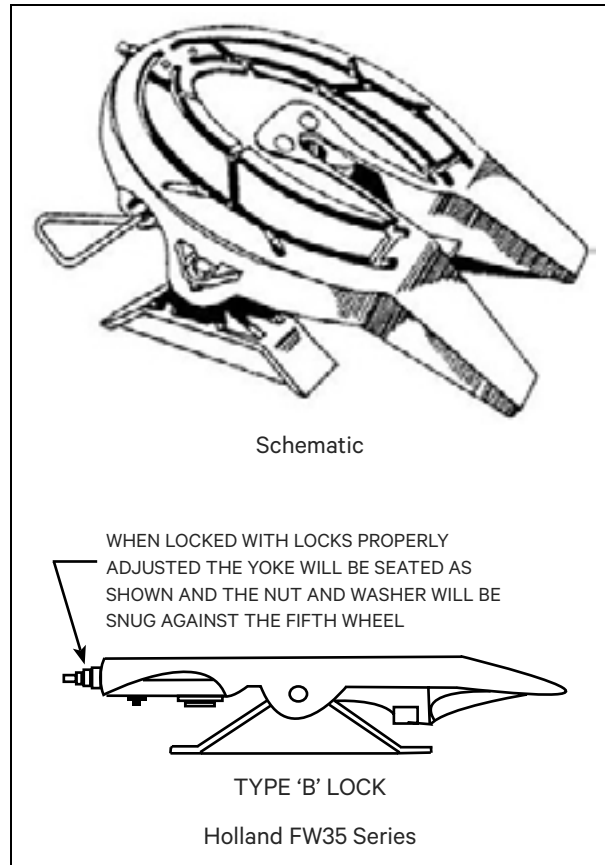

Figure 10 – Fifth Wheel
4. As you back under the upper coupler of the trailer it should slide up the fifth wheel, taking the weight off the trailer landing gear. Keep backing up slowly until you feel a "BUMP". At this point the king pin should be fully engaged in the jaws of the fifth wheel and the lock mechanism should be locked shut. Refer to the Owner's Manual of your tractor to determine what type and model of fifth wheel you have on your tractor. This tractor manual will provide information on the method of verifying the jaws are fully locked shut on your fifth wheel. Figure 10 illustrates the lock on the Holland FW35 fifth wheel. Lode King uses the Holland FW35 series fifth wheel at the rear of the Lead trailer.